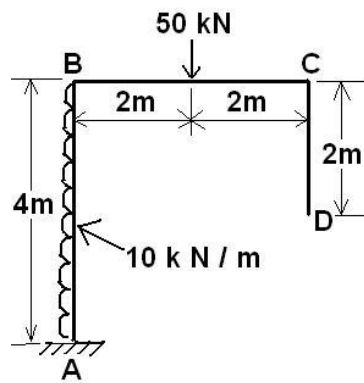

Fig. 2
- (b)** Find horizontal deflection at point D for the frame shown in figure. 2 using any method. take $EI=20000 \text{ kN.m}^2$. **07**